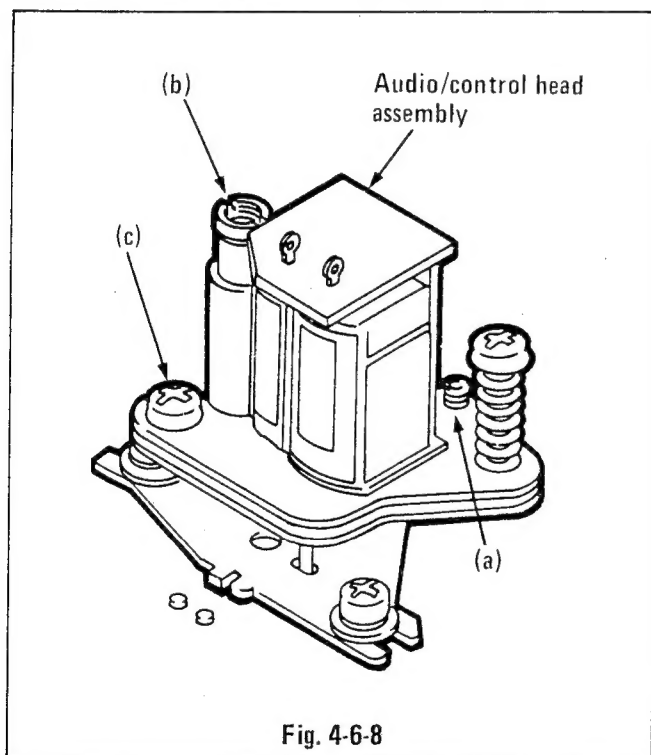

Fig. 4-6-8
4. AUDIO/CONTROL HEAD (See Fig. 4-6-8.)